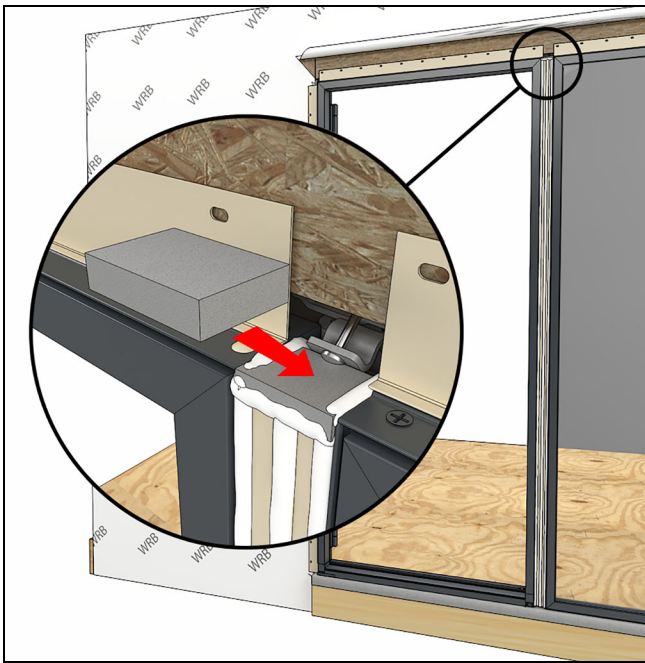
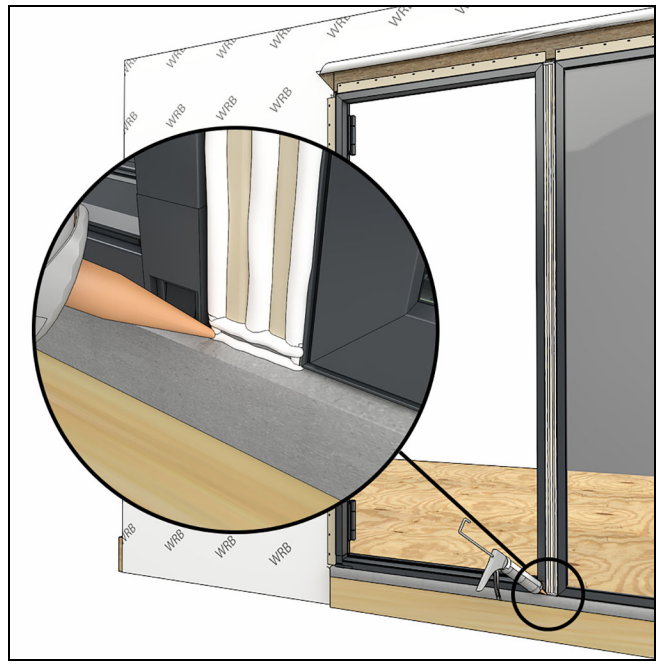
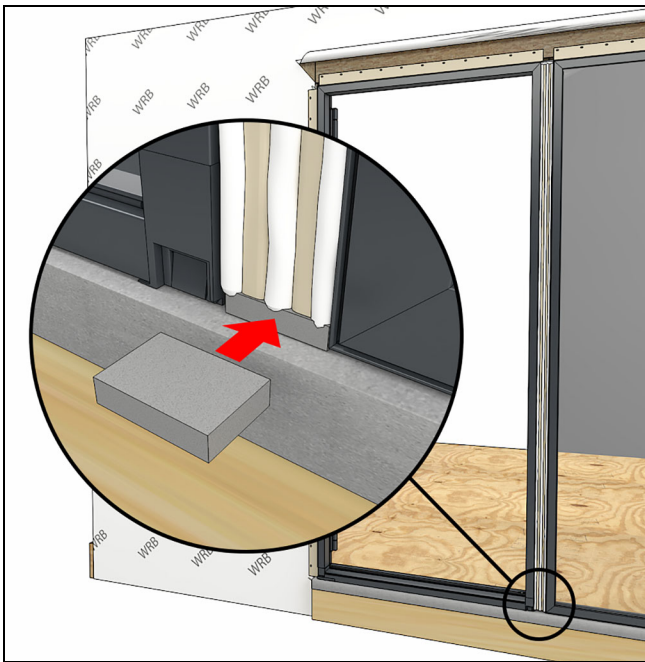

Figure 249
Figure 251
Figure 250
26. Seat foam blocks in the sealant at the head jamb and sill at the ends of the mull filler. See Figure 249, Figure 250, and Figure 251.